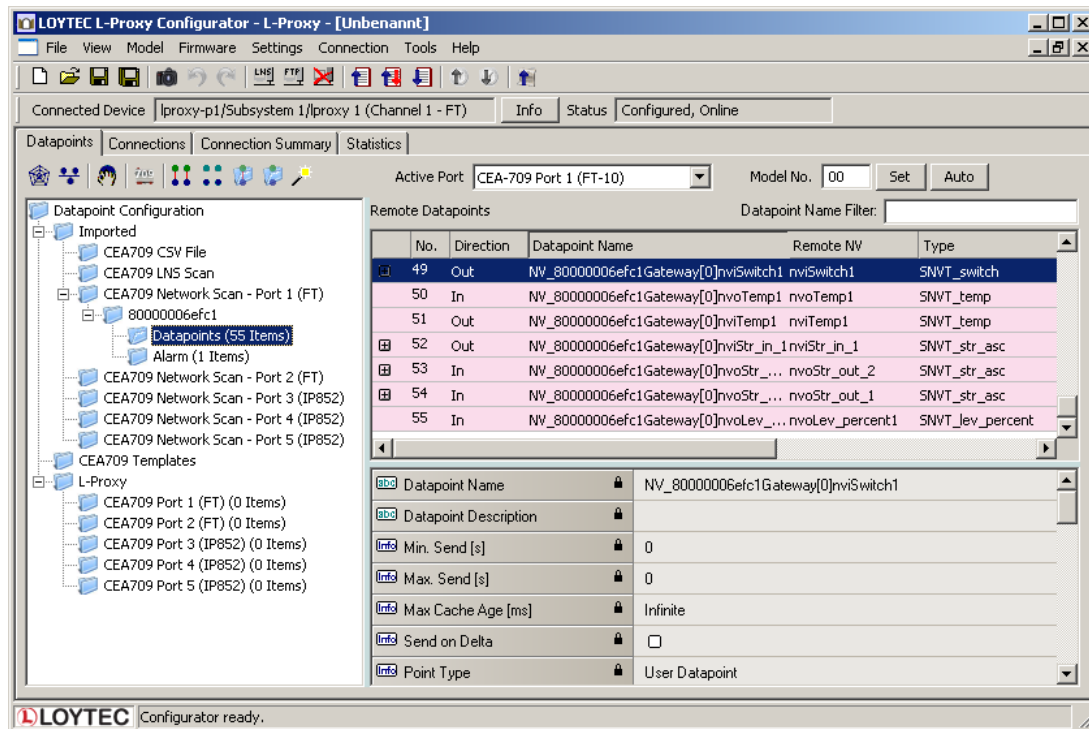

Figure 107: CEA-709 network scan results.
6. Select a device in the device list and click the button **Scan Device**. This scans the NVs on the selected device and adds them to the CEA709/852 Network Scan folder as a separate sub-folder for the device as shown in Figure 107.